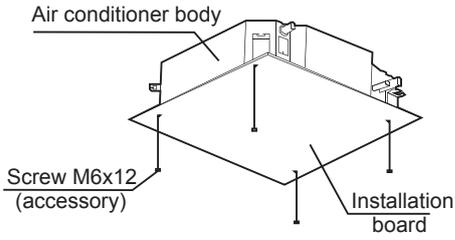

Figure 4.12
2. Once you have lifted and mounted the unit, use M6x12 screws (accessory 5) to secure the installation board (accessory 4) on the unit body. Make sure you verify the size and positions of the opening in the ceiling before you do so. See Figure 4.12.